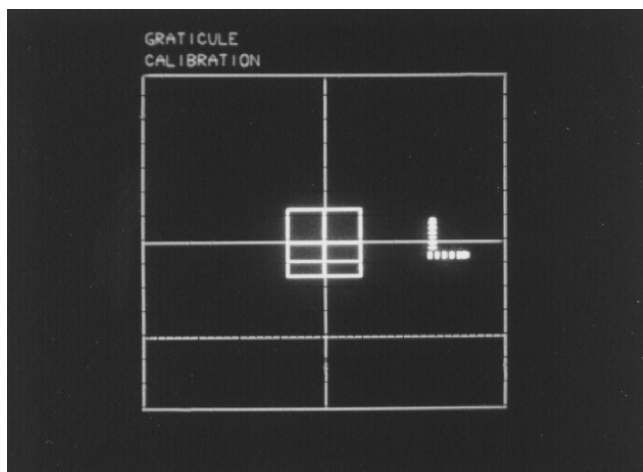

Fig. 6-12 Test grid, beam accuracy check
a. Beam accuracy check (see figure 6-12).